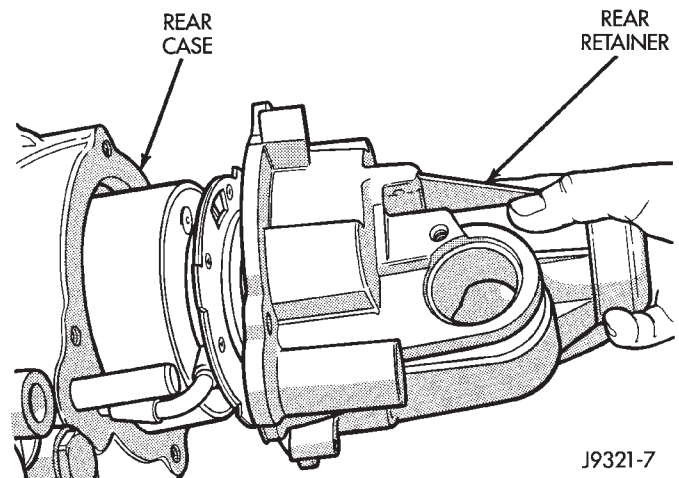

Fig. 93 Rear Retainer Installation
(8) Slide rear retainer onto mainshaft (Fig. 93).